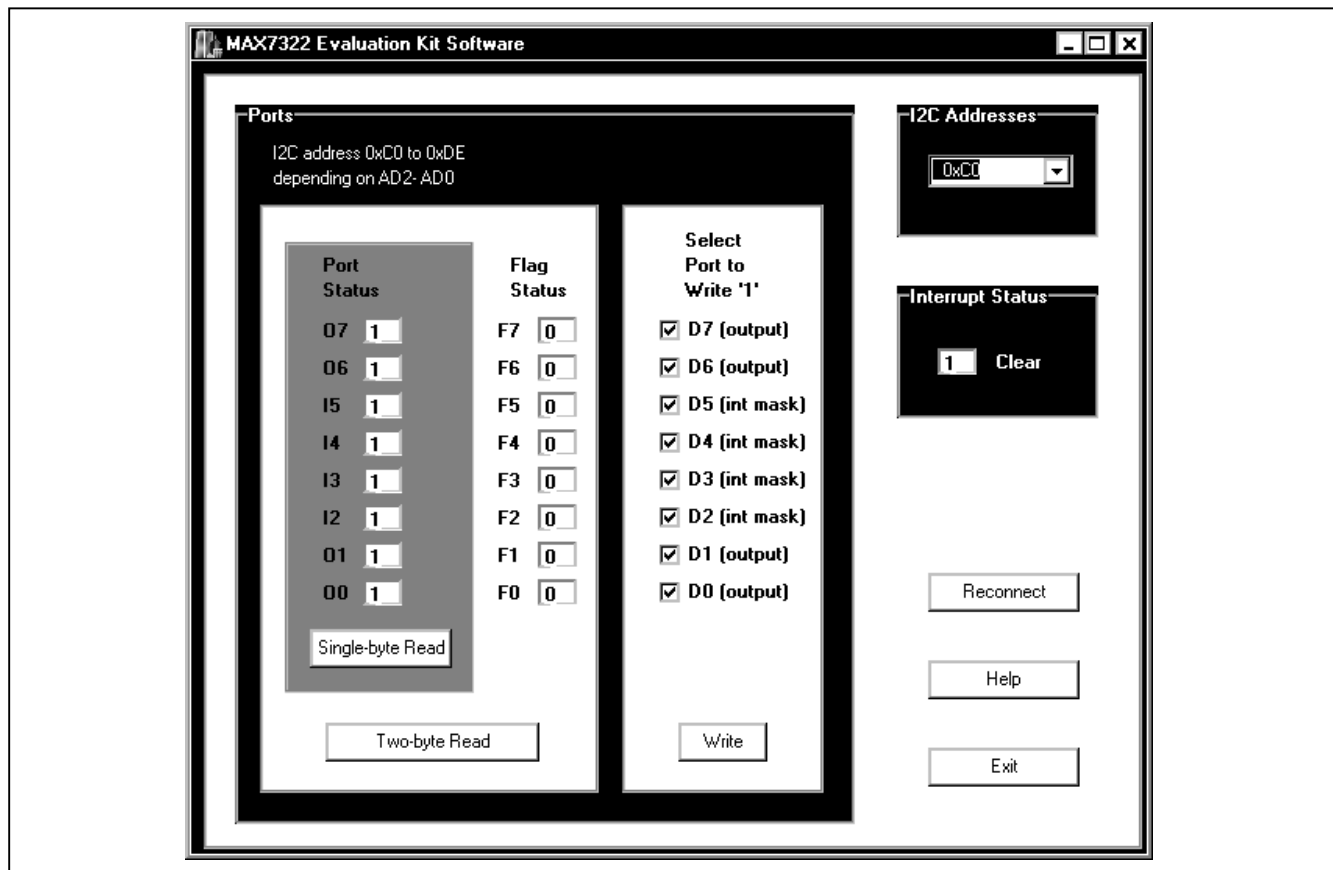

Figure 1. MAX7322 Evaluation Software Main Window
- Start the MAX7322 EV kit software by opening its icon in the **Start** menu. The GUI main window appears, as shown in Figure 1.
To start the MAX7322 EV kit software, double click on the MAX7322 EV kit icon created during installation. The GUI main window appears, as shown in Figure 1.
The **Ports** group box shown in Figure 1 contains the read panel and write panel. The read panel consists of two sections: **Port Status** and **Flag Status**.